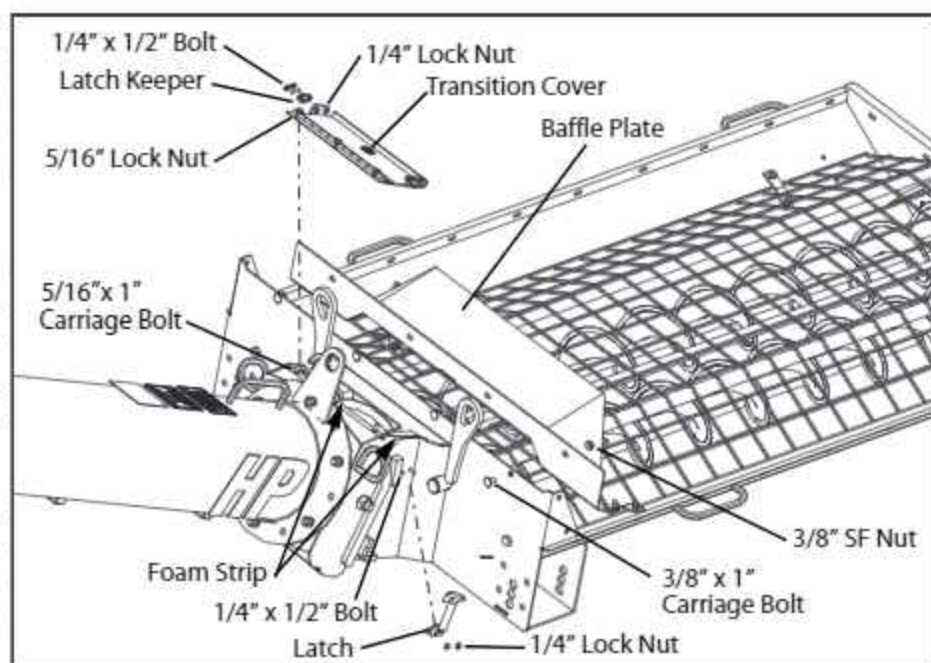

FIG. 3-36. Transition Cover Installation
9. Remove the backing from the short Foam Strips. Place them on the hopper where shown in Fig. 3-36. Make sure the surface is clean before applying.